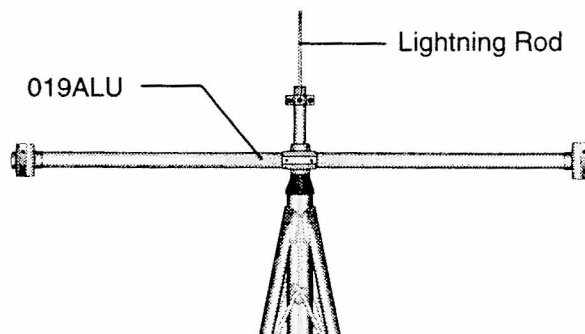

FIGURE 3-6 Lightning Rod and 019ALU Crossarm
4. If the weather station includes an 019ALU crossarm, attach it to the mast as shown in Figure 3-6.
5. Attach the lightning rod to the mast as shown in Figure 3-6.